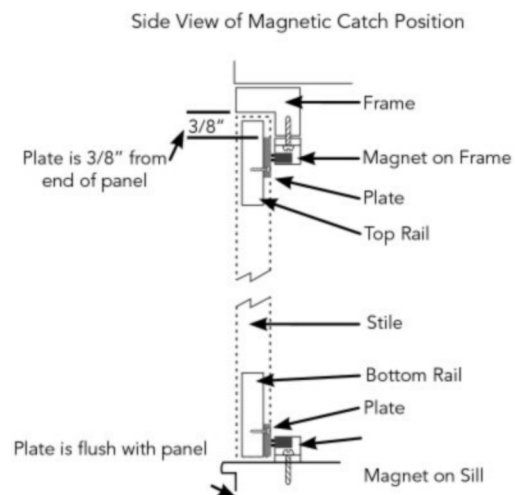

Fig. 9.4
- Install two magnetic catches per panel. (See Fig. 9.4)